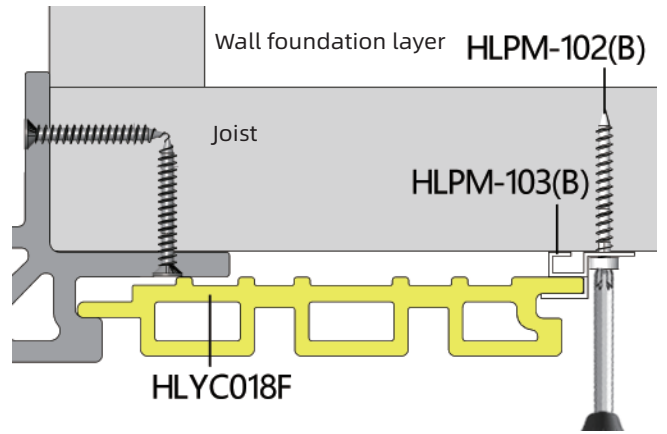

Fig23-1
1. To install the Great Wall board, snap the board into the HLYC-021F or HLYC-019F slot, and then secure it with accessories at the end. As shown in Figures 23-1 and 23-2: